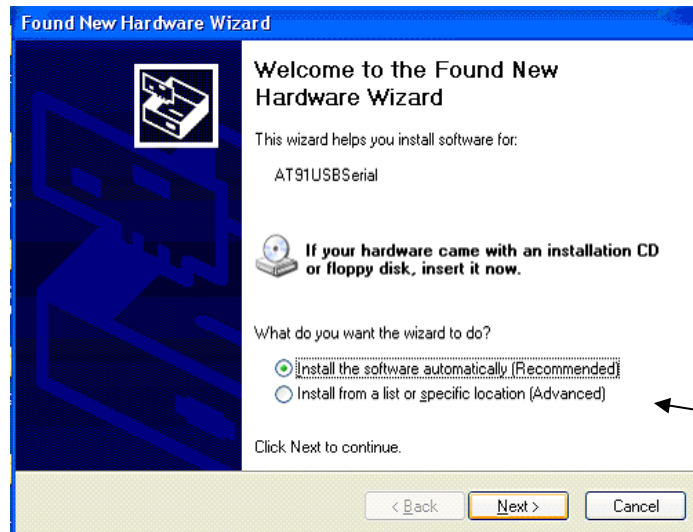

Figure 3: Hardware Wizard
- Select “Install Software Automatically” option as shown in figure 3.